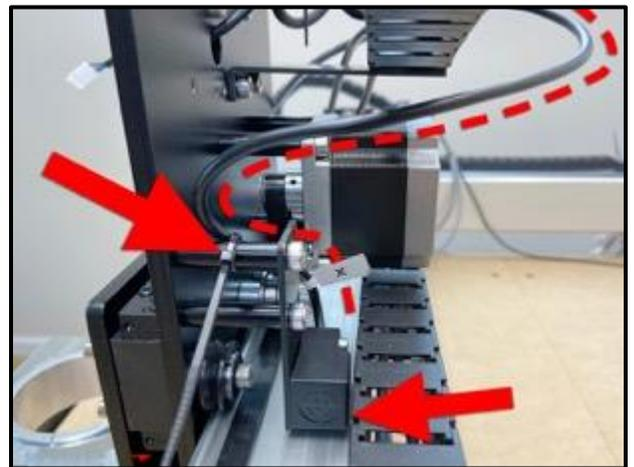

Figure 7-6
- Route the proximity switch cable and mounting plate behind, then through the loop of the X-Axis drag chain. See *Figure 7-6*.
- Use the 4mm hex key and two (2) M5x8mm socket head cap screws to install the mounting plate to the two 30mm standoffs at the rear of the Z-Plus. See *Figure 7-6*.
- Use one (1) cable tie to secure the proximity switch cable to the upper standoff. See *Figure 7-6*.